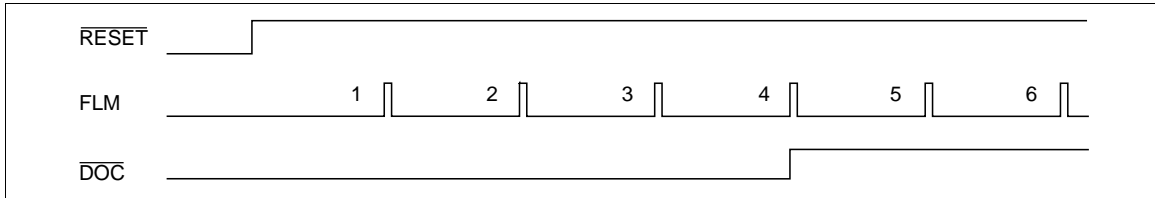

Figure 8 Automatic Display-Off Control Function
**3. Auto Display-Off Control:** This function prevents incorrect display after reset release. The display is turned off four frames following after reset release. In addition, the display off control signal shown in Figure 8 is output by pin  $\overline{\text{DOC}}$ . This pin is connected to pin  $\overline{\text{DISPOFF}}$  of the HD66520.